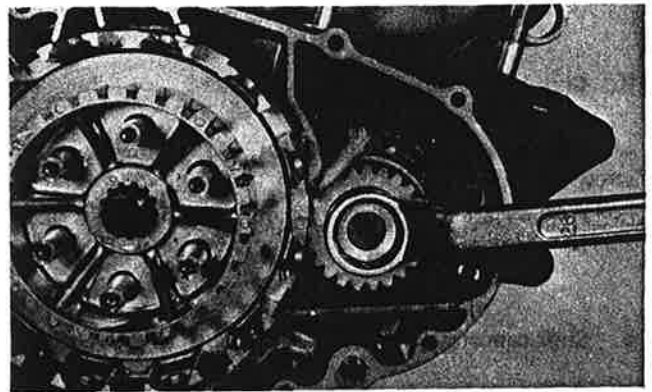

Fig. 3-2-12
3. Loosen primary drive gear by first placing a folded rag (at least 16 layers) between the teeth of the primary gears to lock them as shown in the figure. Then loosen drive gear nut. Remove nut & washer. (Fig. 3-2-12)